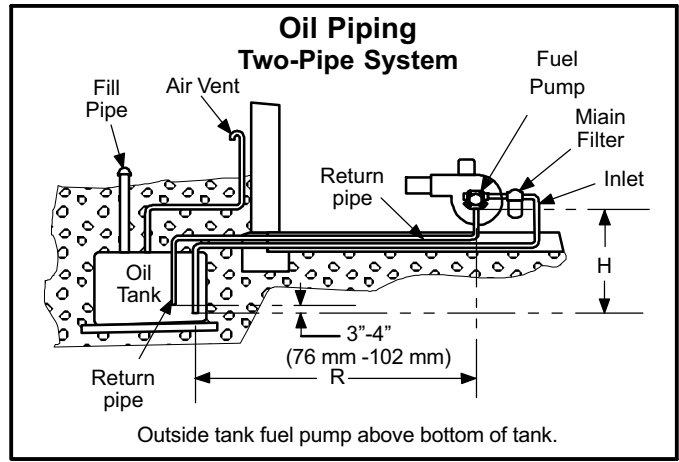

Figure 13
When using a two-pipe system with the oil tank below the level of the burner, use a single-stage fuel pump in lift conditions of up to 10 feet (3 m) and/or a vacuum of 10" (254 mm) Hg or less. See figure 13. Use a two-stage fuel pump when lift exceeds 10 feet (3 m) and/or a vacuum of 12" Hg to 17" Hg. Both conditions require that you use of a two-pipe system, which consists of a return line that purges the fuel pump of air by returning it to the tank. To determine the run and lift for piping, refer to table 5.
- 2 - Insert bypass plug and tighten it. See figure 13.
- 4 - The return pipe must terminate 3" to 4" above the supply pipe inlet. See figure 13.